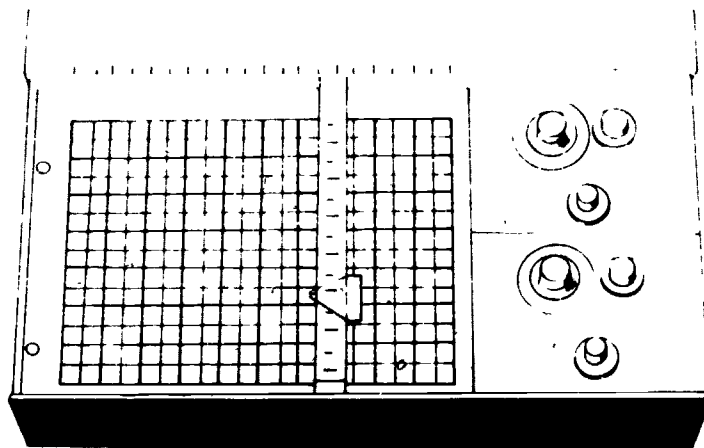

Figure 39. X-Y Recorder
X - Y recorders draw a graphical representation of one electrical signal (Y) as a function of another electrical signal (X). A typical X - Y recorder is shown in Figure 39.